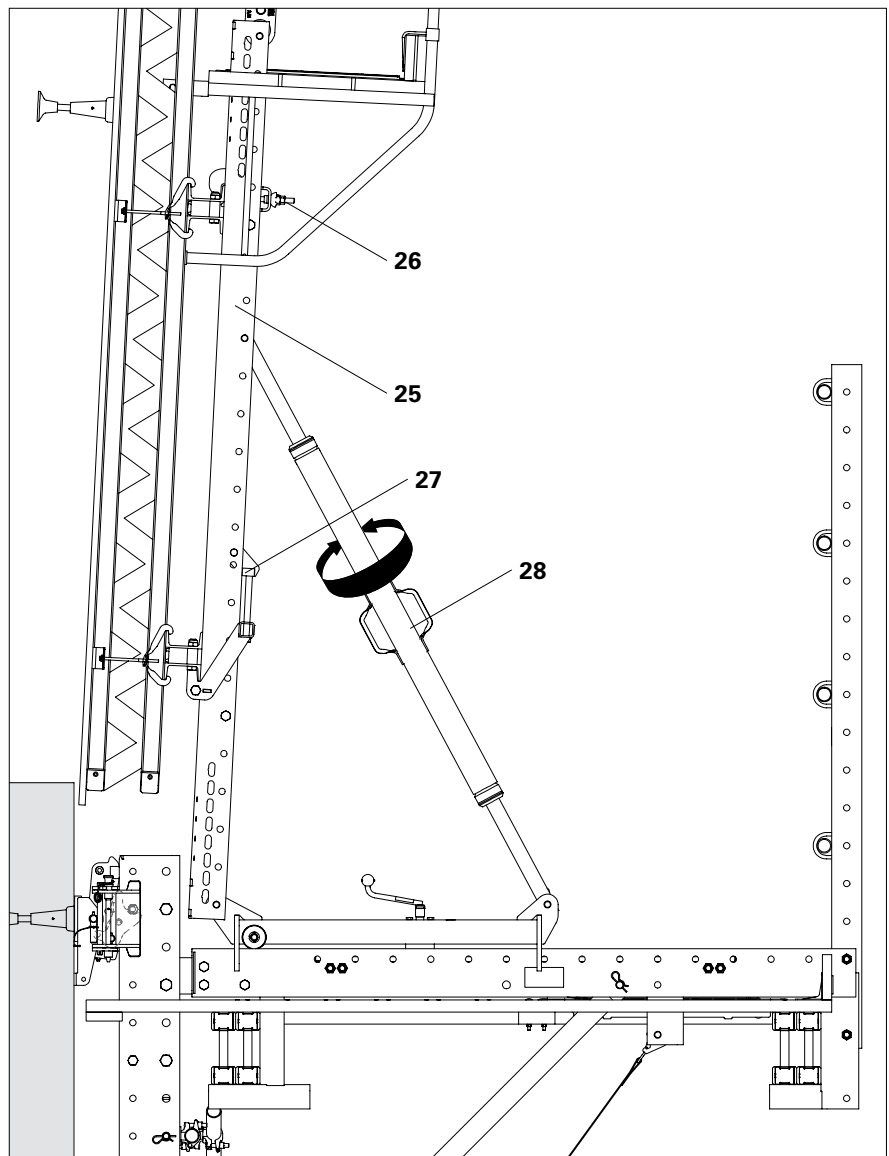

Fig. D2.02
1. Hold a spirit level against the formwork and vertically adjust the formwork by turning the Formwork Spindle (**28**). (Fig. D2.02)